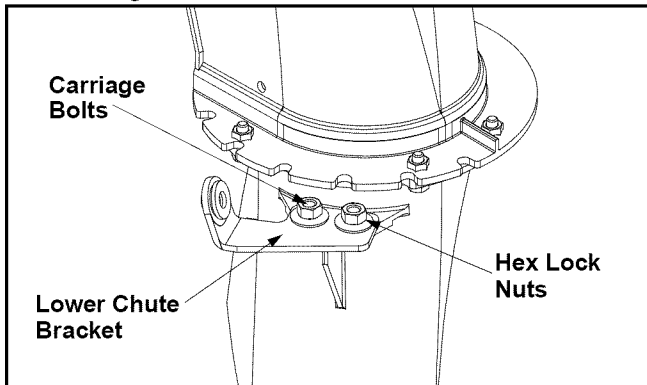

Figure 10
- To align the spiral on the chute directional control, you may have to loosen the carriage bolts and hex lock nuts securing lower chute bracket to the extension on the left side of the chute assembly. See Figure 10.